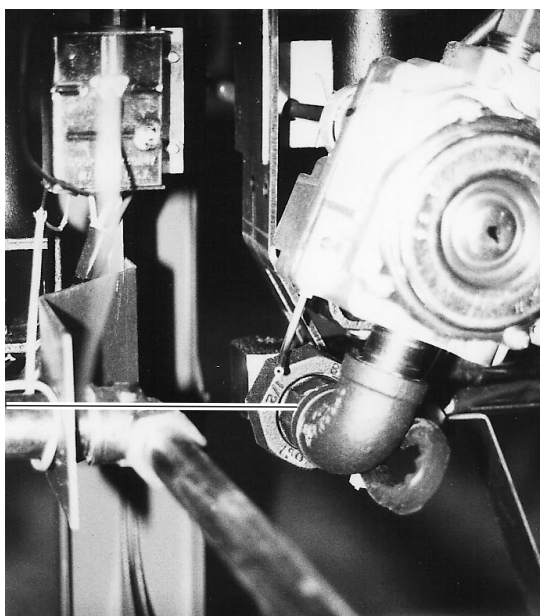

Fig. 39
7. With channel locks disconnect union in gas line leading from combo valve to the burner manifold and lift valve out of the fryer. (Fig. 39)